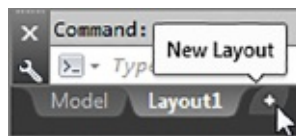

FIGURE 15.15 The New Layout tab
1. Click the New Layout tab from the layout tabs in the lower-left corner of the drawing area (see Figure 15.15). A new preview panel appears, labeled Layout2.